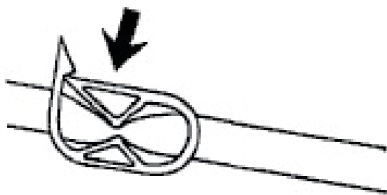

Figure 1-9: Open the clamp
1. Open the clamp by pushing on the serrated end (Figure 1-9 on page 11).